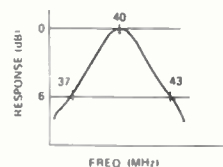

Fig. 6-1
Step 3: Adjust T1, T2, T3 of RF section for maximum output and best curve symmetry as shown in Figure 6-1.